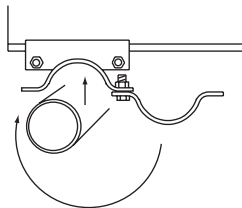

Fig. G-1
- ① Whenever possible, install bolts with heads toward the floor (threads pointed up), or with heads toward the front (threads facing rear of backstop).
- ② Assemble backstop (Ceiling-Suspended only) on the floor, then hoist into attachment position. There are several options for hoisting. **⚠ Use extreme caution.**
- ③ For tube attachments, loosely bolt one side of clamp together, hold tube in place, swing bottom of clamp around, add second bolt and finish bolting (see Fig. G-1).